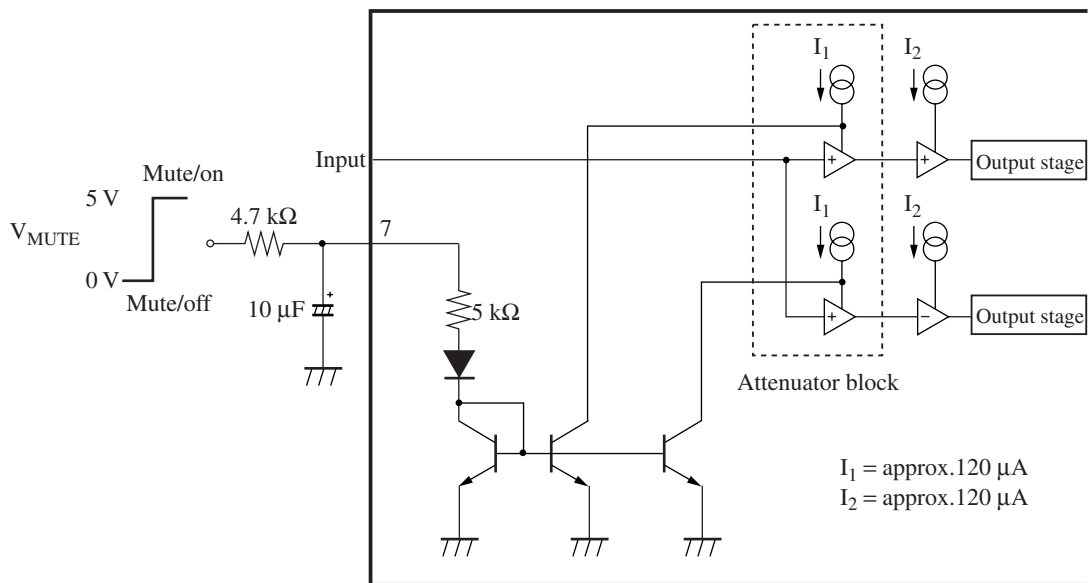

Figure 6
- 2) The muting circuit is as shown in figure 6. The amplifier gain including attenuator block is given in the following equation :
- 4) Attack time and recovery time can be changed by the external CR of pin 7. For recommended circuits (In figure 6 4.7 kΩ, 10 μF), the above mentioned times are as follows :